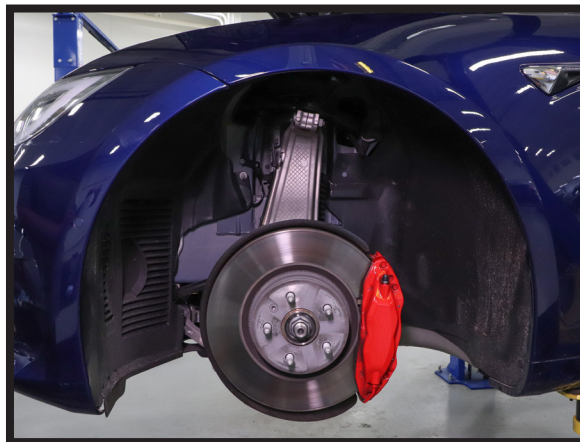

FIGURE 7
4. RAISE VEHICLE AND REMOVE APPLICABLE FRONT WHEEL. (FIGURE 7)